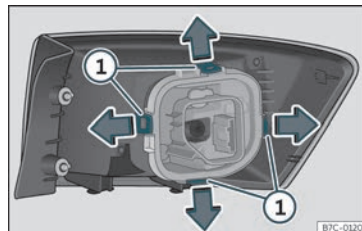

Fig. 50 Retaining tabs on reverse side of tail light.
- Disassemble the bulb holder unlocking the securing tabs»» Fig. 50 ①.